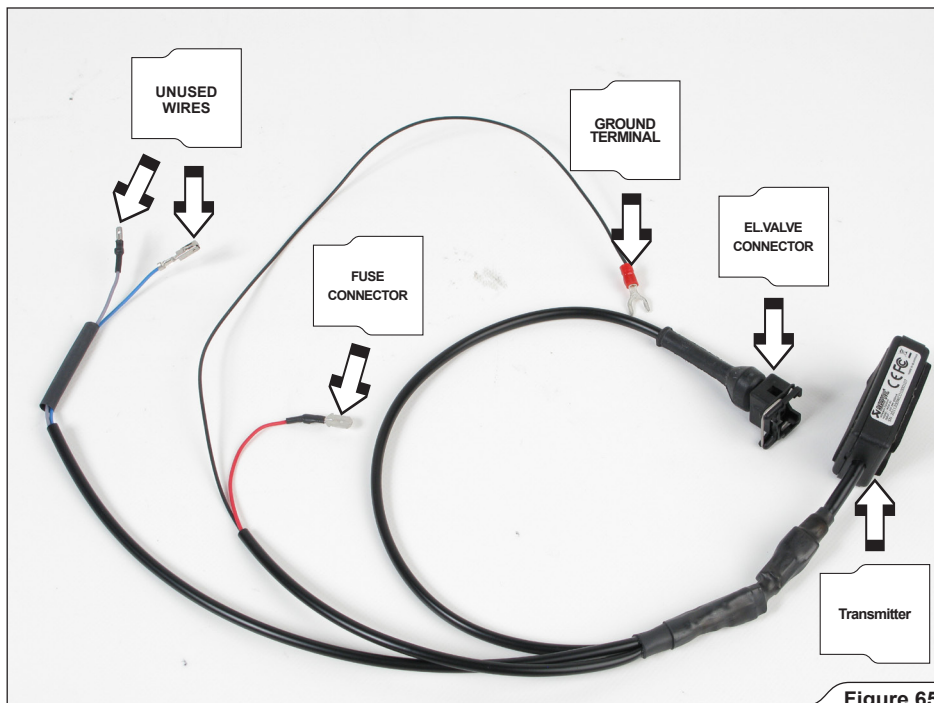

Figure 65
11. Transmitter with installation fittings: **red wire**-fuse box pin (power supply), **black wire**-ground terminal, **black connector**-to electromagnetic valve (**Figure 65**).